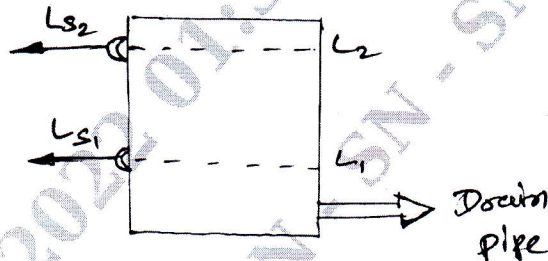

Fig.Q3(b)
- b. The level control system of a water tank has two level switches  $L_{S1}$  and  $L_{S2}$  and as shown in Fig.Q3(b) below, such that when the water level  $> L_1$  (value of lower limiting level),  $L_{S1}$  is 'ON' i.e. the output of  $L_{S1} = 1$  and when the water level  $> L_2 =$  (value of upper limiting level)  $L_{S2}$  is ON i.e., the output of  $L_{S2} = 1$ . Design a ladder diagram to achieve the following objectives.